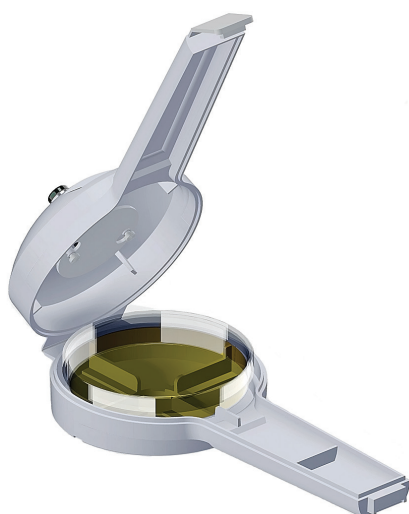

Figure 2: CAMTU in Open Position
3. Open the CAMTU cover (see Figure 2), loosen the deflector plate thumb screws and remove the deflector plate.